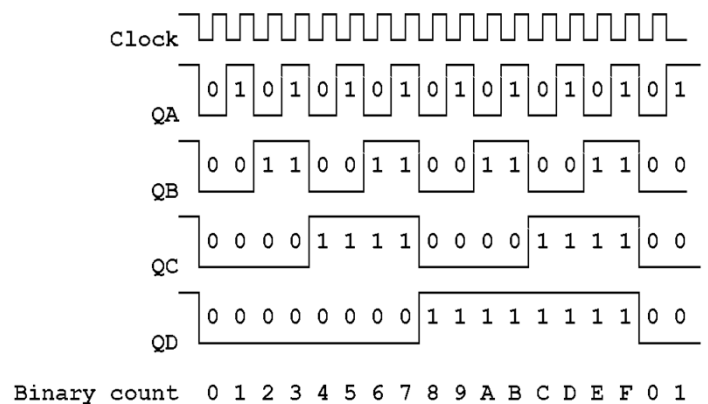

Figure 2.4. Expected waveforms for a mod-16 counter.
Figure 2.4 shows the timing relationships between the counter outputs. The count values are shown at the bottom of the figure; each one represents the binary pattern in the corresponding vertical slice read from the bottom up; i.e. from QD up to QA. For example, count 7 corresponds to QD, QC, QB, QA = 0 1 1 1.
In this section, you will display the waveforms of Figure 2.4 two at a time on an oscilloscope.
- Adjust the scope-trace speed (Time/Div) so you see QD and QC displayed as in Figure 2.4 (i.e. a full cycle of QD and two full cycles of QC).
Verify that the timing relationship between QD and QC is as in Figure 2.4.
- draw the waveforms you observe on the oscilloscope. As done in Figures 2.4 and 2.5, stack the waveforms for QA, QB, QC, and QD (even though you can only observe two at a time).